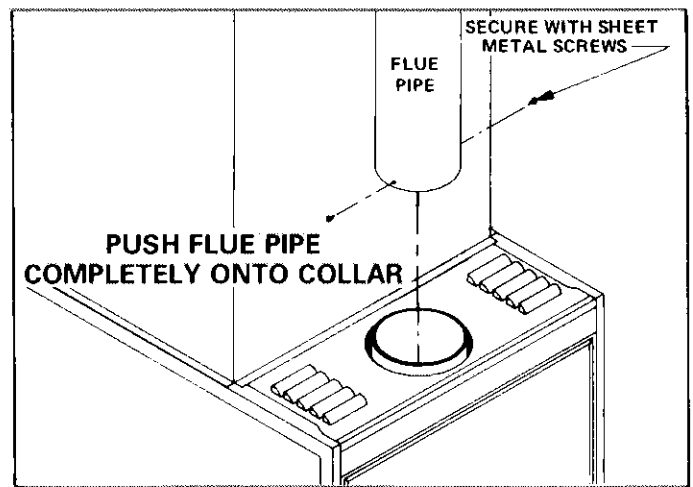

FIGURE 4
- 1 - Install flue pipe over the collar on the cabinet top and connect to the chimney using least number of elbows and angles possible. See Figure 4.